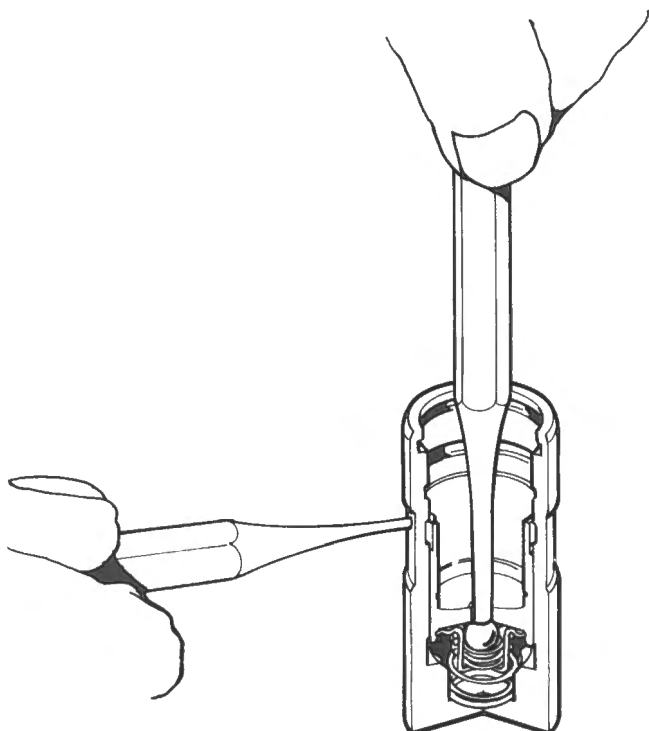

Fig. D-41
- 2 Fit the plunger to the body by depressing the ball check valve with a 1.6 mm (1/16th in), drift as shown in Fig. D-41.
- 3 Insert 3 mm (1/8 in), drift through the oil feed hole to hold the plunger down while the push rod seat and retainer clip is fitted. Fig. D-41.